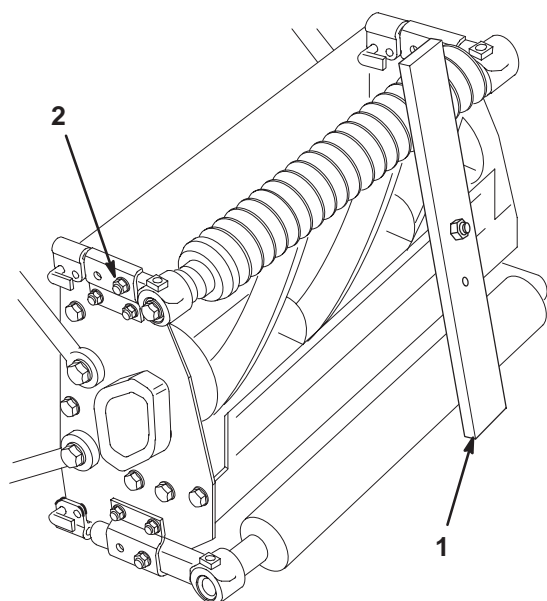

Figure 9
2. Slightly loosen nut securing each front roller bracket to angle bracket (Fig. 9).
4. Place the bar across the front and rear rollers and adjust the front roller support screws until the underside of screw head engages the bedknife cutting edge (Fig. 9). Do this on both ends of reel. Make sure the rollers are free of debris and/or distortions on the roller surfaces.